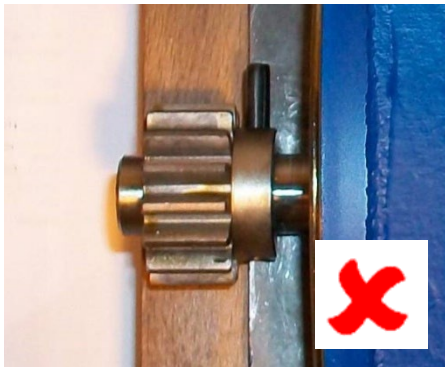

Figure 14 – Incorrect fitting
- 13.7 Check the Spirol pin securing the pinion gear to the motor shaft is in place and secure, Figures 14 and 15.